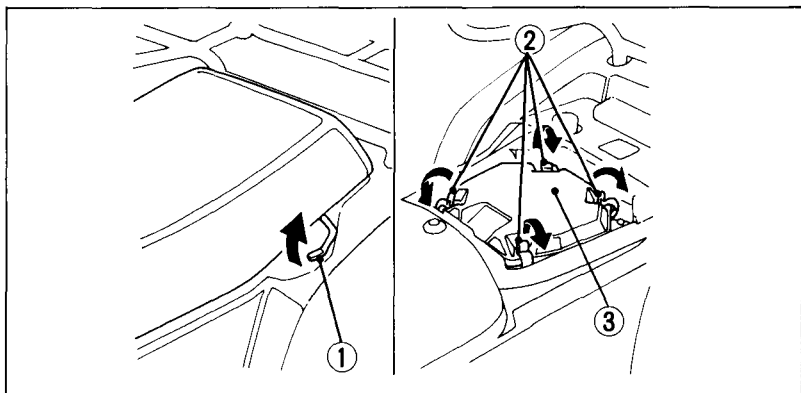

Fig. 4-5
1. Remove the seat by pulling up the seat lock lever (Fig. 4-5).
2. Unlatch the four retainer clips (2) and remove the air cleaner cover (3).